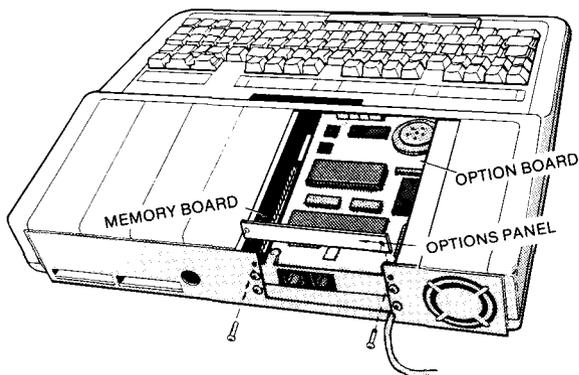

Figure 3.
3. Carefully install the PLUS Network 4 Interface board in the empty expansion slot by aligning the pins and the connector and pressing the PLUS Network 4 Interface board down firmly but gently to seat it either in the main logic board or the lower connector of the Memory PLUS Expansion Adapter. See Figure 3.